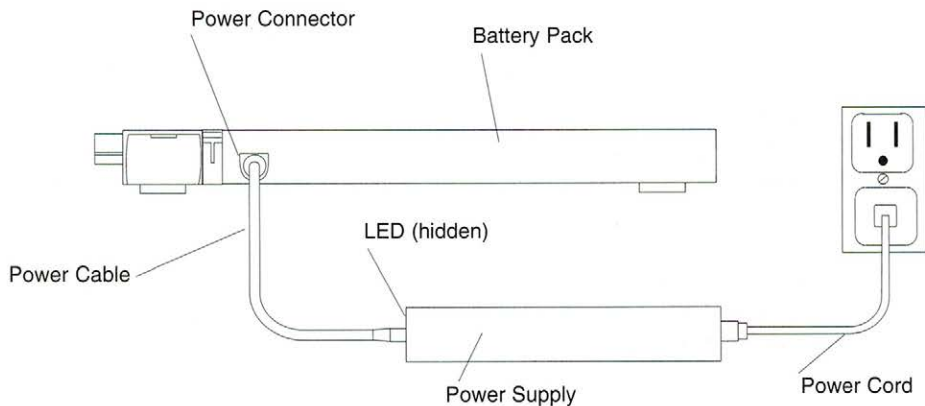

Figure 4-1. Powering Computer from the Power Supply
The power supply attaches to the computer as described below and as shown in Figure 4-1.
- Leave the battery pack attached to the computer and connect the power supply, as shown in Figure 4-1; the auto adapter can also charge the battery. The batteries recharge automatically, whether or not the computer is turned on.